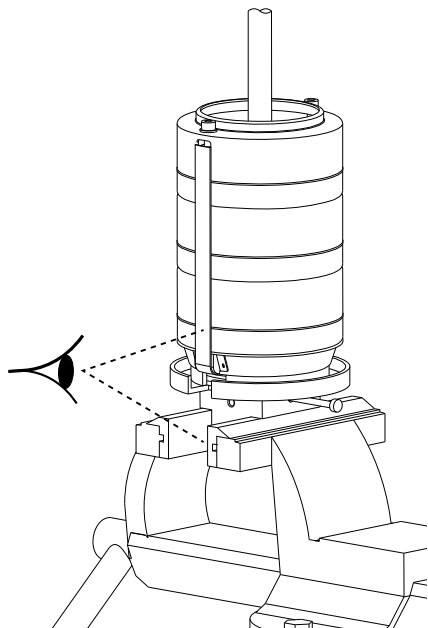

Fig. 2 Positioning the chamber stack in the holder
1. Place the holder for dismantling and assembly in a vice and tighten it. See fig. 2 for right positioning.
2. Pull the chamber stack out of the outer sleeves (pos. 55) and place it in the holder according to fig. 2. Make sure the chamber stack engages with the holder.